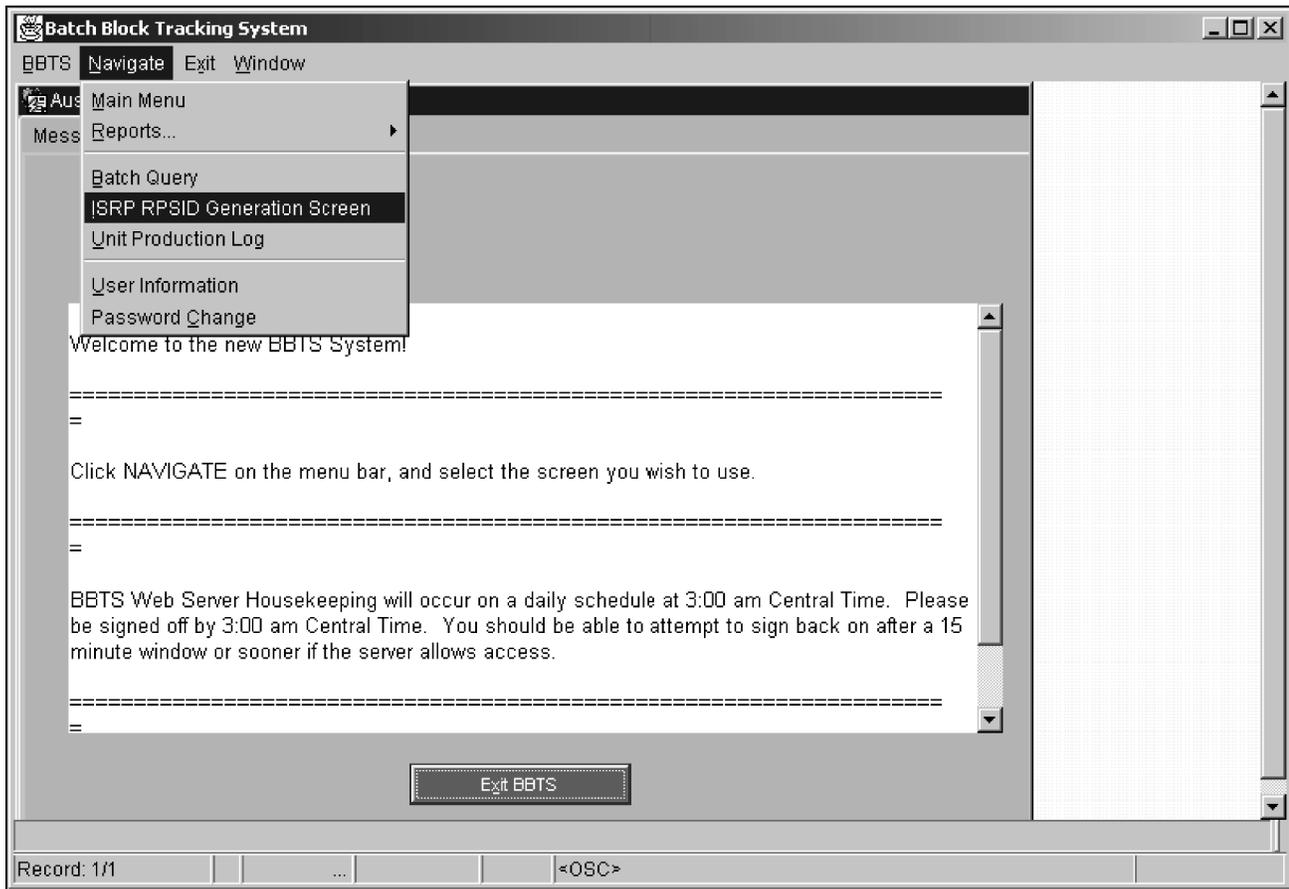

Figure 3.10.5-54 Navigating to the ISRP RPSID Generation Screen
- (1) The ISRP (Integrated Submission and Remittance Processing System) RPSID Screen allows the user to assign a RPSID number to all With-Remit returns processed through Deposit and to delete a RPSID number that was erroneously assigned.
- (2) “Navigate” to the “ISRP RPSID Generation Screen”. **See Figure 3.10.5-54 and Figure 3.10.5-55**